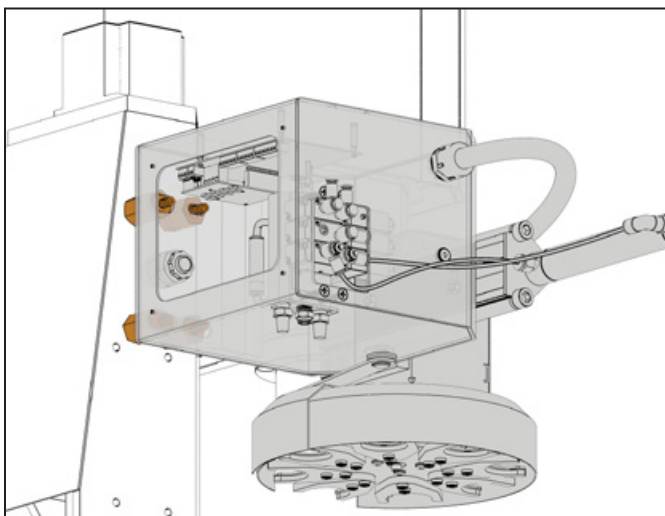

Figure 9
9. Temporarily rest the ATC on the standoffs (see **Figure 9**) and release the oil line.